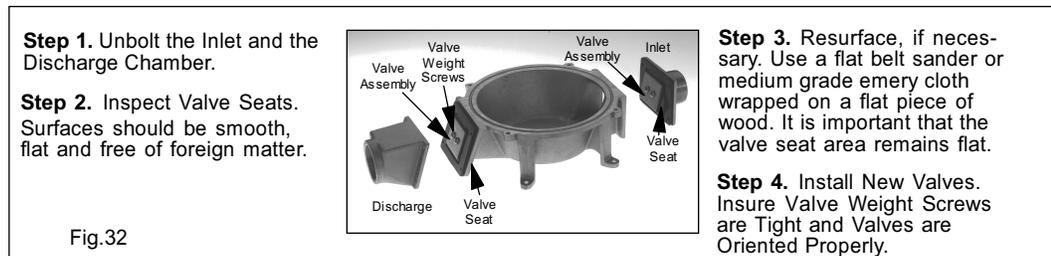

Fig.32
- Change the valve assemblies as required. See Fig. 32
5. If you do not get any vacuum reading or if the gauge does not get to 10" hg and drops off to 0 as soon as the pump stops, do the same thing again. Listen for air being sucked in around the diaphragm. If you hear air movement, inspect for loose bolts or worn diaphragm. If you hear no air movement, remove the discharge chamber and inspect the valve assembly and valve seat. Clean or replace the valve and clean or resurface the valve seat as appropriate. See Maintenance/Valve Assemblies fig. 32
4. If you do not get any pressure reading or if the gauge does not get to 4 psi and drops off to 0 as soon as the pump stops, clean or replace the suction valve and clean or resurface the valve seat as appropriate. See Maintenance/Valve Assemblies fig. 32
4. Press your hand over the discharge. If the inlet valve is sealing properly, the pressure of the pump down stroke should push your hand away. If it does not and the air is forced out the inlet remove the inlet chamber and inspect the valve assembly and valve seat. Clean or replace the valve and clean or resurface the valve seat as appropriate. See Maintenance/Valve Assemblies fig. 32